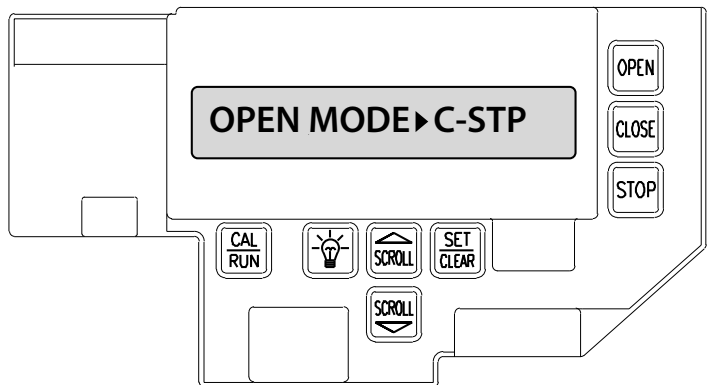

Fig. 3
2. Press SET/CLEAR until display reads "OPEN MODE > C-STP" Fig. 3.